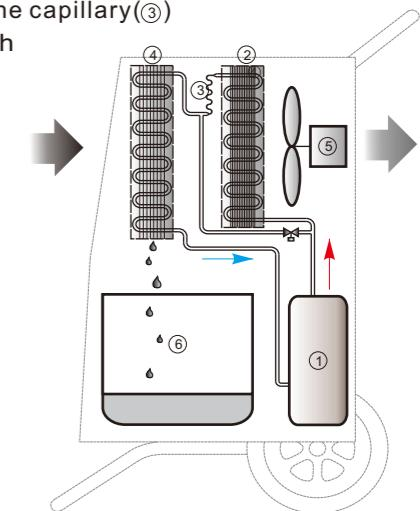

FIG.1
(See FIG.1) MDR dehumidifiers are designed based on the refrigeration circulatory system. Inside this hermetic system, the compressor(①) pumps and compresses refrigerant to high temperature gas, and send to the condenser(②). After heat exchange and pass through the condenser, the gas is throttled in the capillary(③), then it turns to low temperature liquid status, then it passes through evaporator(④), evaporates and returns to the compressor. The ventilator(⑤) draws moist air through the refrigerated surface of evaporator which cools it below the dew point, removing moisture which is collected and lead away to water tank(⑥). The cool air then passes over the hot condenser, where it is reheated. Then the air is discharged into the room at a little higher temperature but a lower relative humidity than when the air entered the unit. Continuous circulation of the room air through the dehumidifier unit gradually reduces the relative humidity in the room.